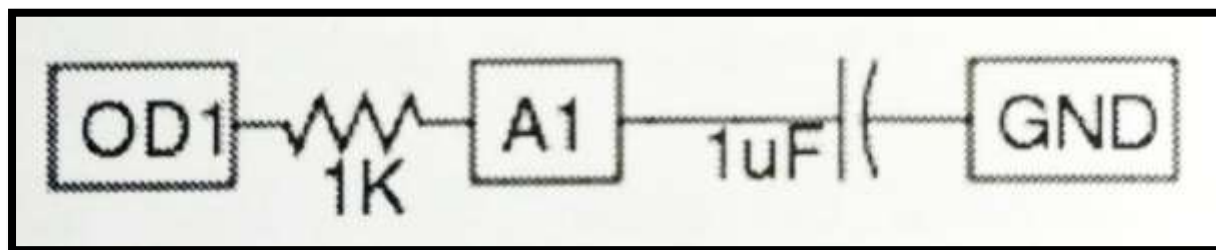

Figure 5 : Connection digram for RC circuit
- 1) Make connections as shown in figure 5 and 6.